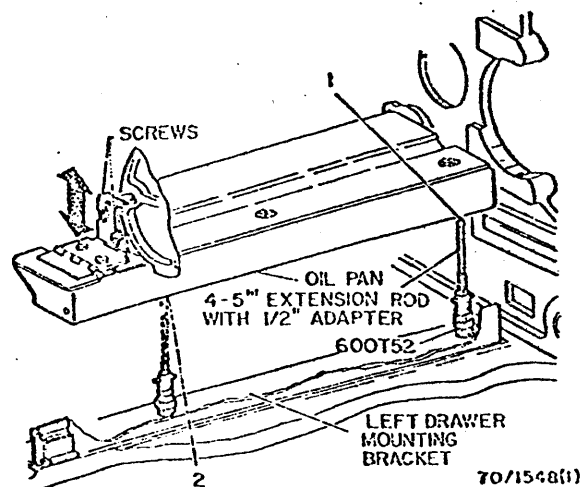

Fig. 3-194. Oil Pan Height
1. Measure height at the inboard end (Fig. 3-194).